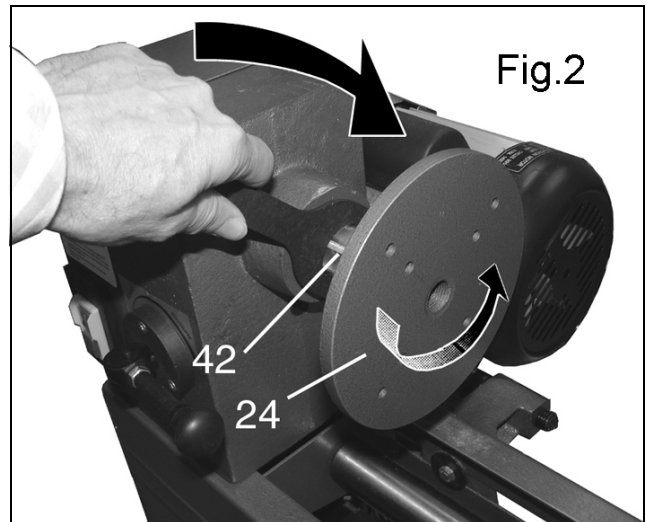

Fig.2
1. If faceplate turning is required, screw the faceplate (24) onto the headstock spindle (42) while using the open wrench provided to prevent the spindle from turning. Tighten the faceplate as shown in Fig 2.